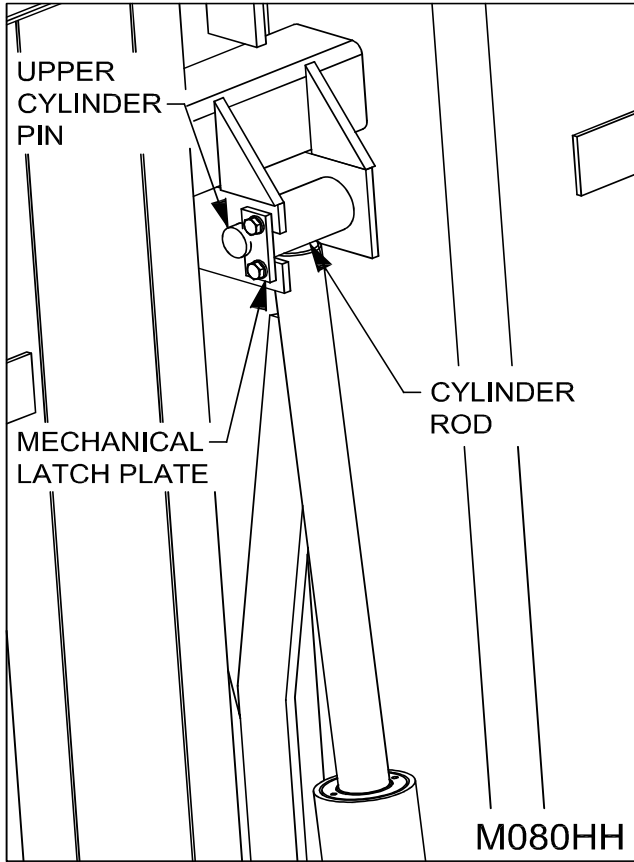

Figure 17: Cylinder Rod Installation
17. ___ Remove the bolts from the mechanical latch plate and remove the upper cylinder pin. Extend the cylinder to the appropriate stroke length and install the rod end of the cylinder to the deck cylinder clevis using the upper cylinder pin. Reinstall the mechanical latch plate and bolts. Confirm that the rod end of the cylinder has been properly installed (See “Figure 17: Cylinder Rod Installation” on page 25). This means that the cylinder must be aligned vertically and not tilted over to the left or right side of the dock leveler. Improper alignment will cause premature wear on hydraulic cylinder parts.
10. ___ Cylinder Rod Installation (see “Figure 17: Cylinder Rod Installation” on page 25)